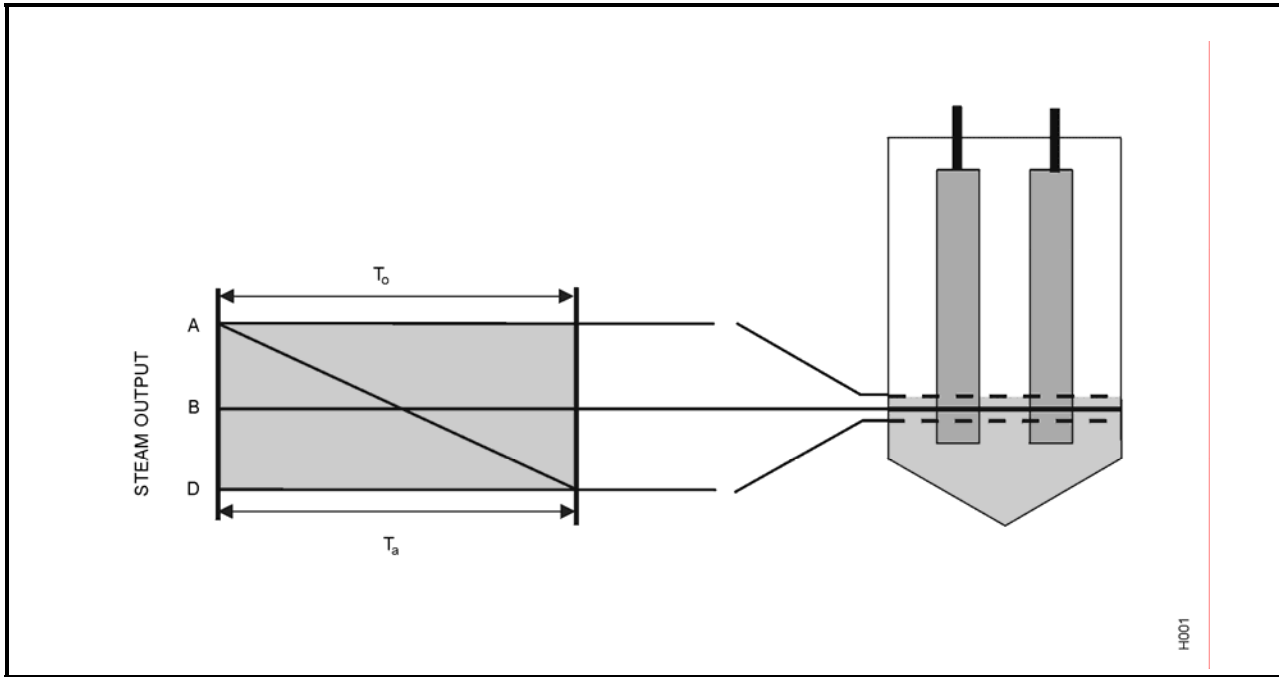

Figure 2. Optimum Boiling Time
- (1) NORTEC's patented P+I Auto-Adaptive control system allows the unit to operate at an optimal low water level using the same fixed electrode spacing regardless of the incoming water conditions. Boiling of the water allows the minerals in the water to remain behind in the cylinder. This raises the contained water conductivity to a value higher than the incoming water. The P+I Auto-Adaptive control system monitors and adjusts the contained water conductivity as these changes occur.
- (2) The humidifiers are designed to produce full steam output at the lowest possible electrode coverage to obtain maximum cylinder life.
- (3) The units operate between A and D of the main steam output demand. Accordingly, the current flow between the electrodes in the cylinder is maintained between these pre-established limits programmed into the P+I Auto-Adaptive control system.
- (4) As the water boils away and the electrode coverage is reduced, the steam output is also reduced slightly. A pre-determined design parameter of every NORTEC cylinder is the known time (T_o) (time optimum) that it takes to boil down from A to D of output (also referenced to as amp trigger points) at a pre-designed contained water conductivity. (See Figure 2.)